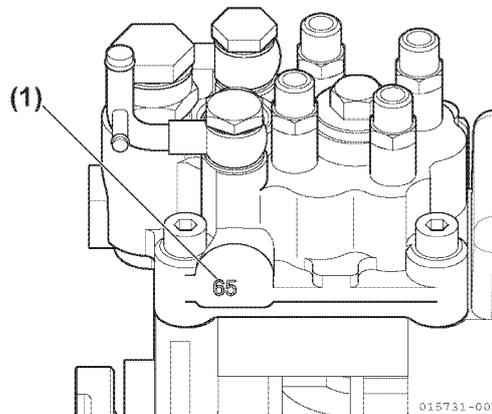

**Figure 6-63**
Note: It may be required that the intake manifold and fuel injection pump insulator (**Figure 6-63, (2)**) be removed to access the inner fuel injection pump (**Figure 6-63, (1)**) retaining nuts.
23. Remove the fuel injection pump (**Figure 6-63, (1)**). For purposes of future injection timing purposes, record the fuel injection pump timing index number located on the boss on the engine side (back) of the of the fuel injection pump (**Figure 6-64, (1)**). **NOTICE:** Do not rotate the crankshaft while the injection pump is removed.